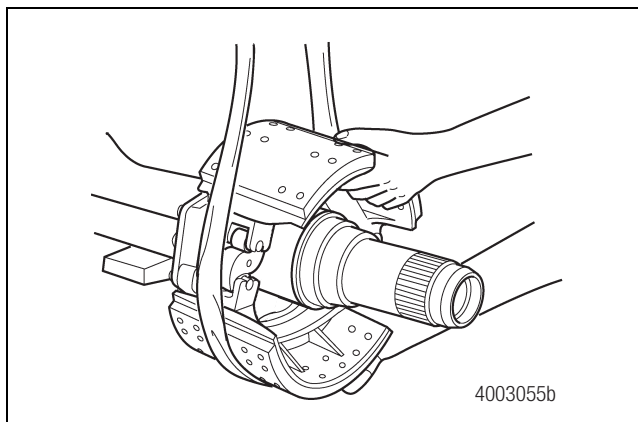

Figure 3.6
7. Use a lifting device to support the brake assembly. Figure 3.6.